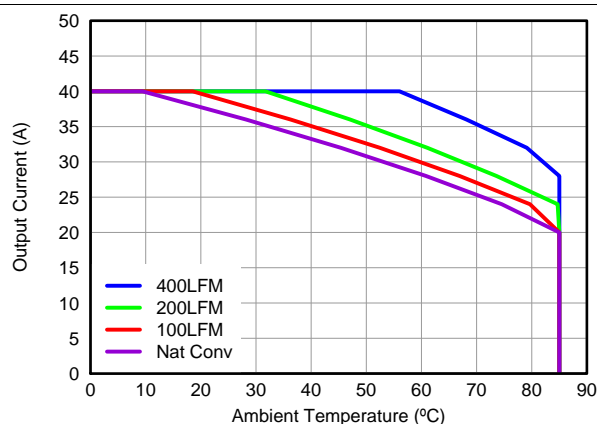
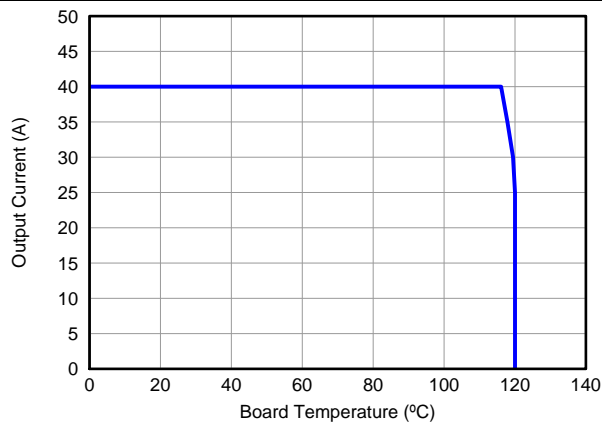

Figure 3. Safe Operating Area – PCB Vertical Mount⁽¹⁾
Figure 5. Typical Safe Operating Area⁽¹⁾
The SOA curves in the CSD87353Q5D data sheet provides guidance on the temperature boundaries within an operating system by incorporating the thermal resistance and system power loss. Figure 3 to Figure 5 outline the temperature and airflow conditions required for a given load current. The area under the curve dictates the safe operating area. All the curves are based on measurements made on a PCB design with dimensions of 4 in (W) × 3.5 in (L) × 0.062 in (T) and 6 copper layers of 1-oz copper thickness.